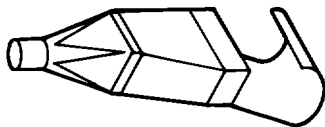

Figure 6. Large Boot and Tubing Reflector
17. **Large Boot and Tubing Reflector.** Used for installing large diameter tubing and molded parts (Figure 6).